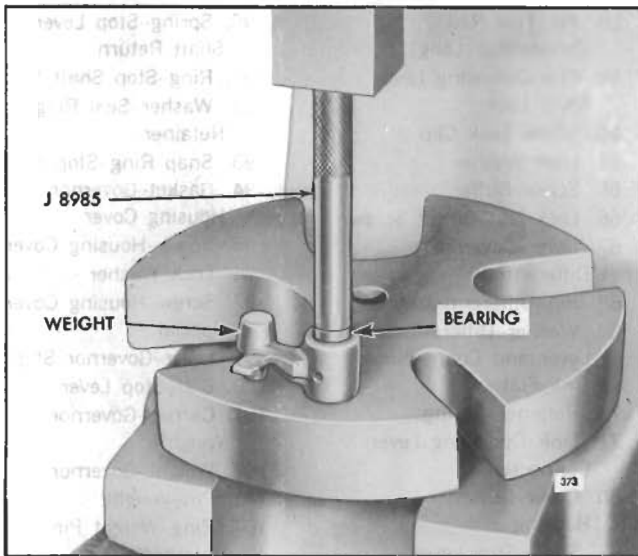

Fig. 20 - Installing Bearings in Governor Weight
bearing and under the ram of the press as shown in Fig. 20. Then press the bearing straight in the weight until it is flush with the top of the weight. Reverse the weight on the press and install the second bearing in the same manner.
- d. Insert the pilot end of installer J 8985 in the bearing and under the ram of the press as shown in Fig. 20. Then press the bearing straight in the weight until it is flush with the top of the weight. Reverse the weight on the press and install the second bearing in the same manner.